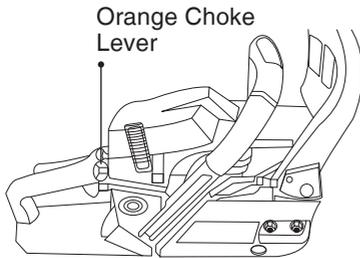

Fig. 7
- Pull the choke lever out to its full extent (Fig. 7).